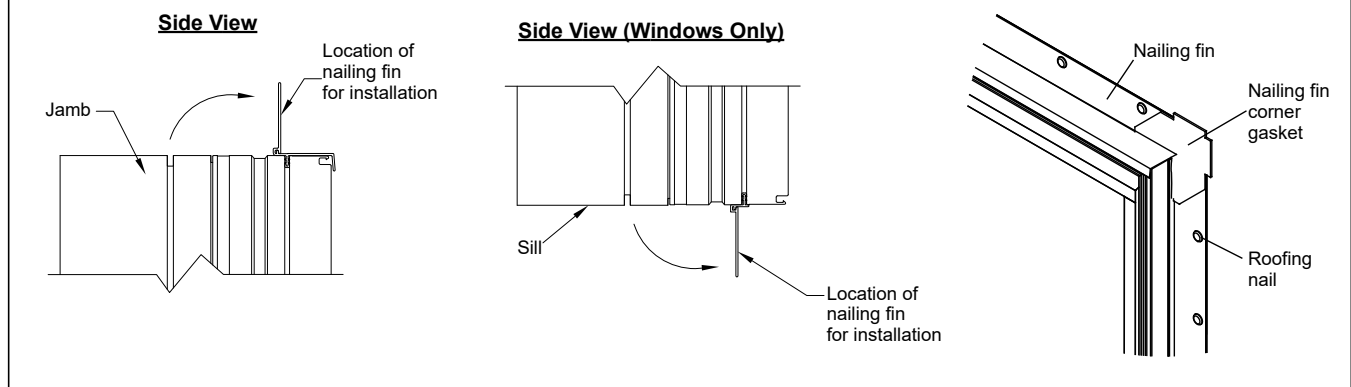
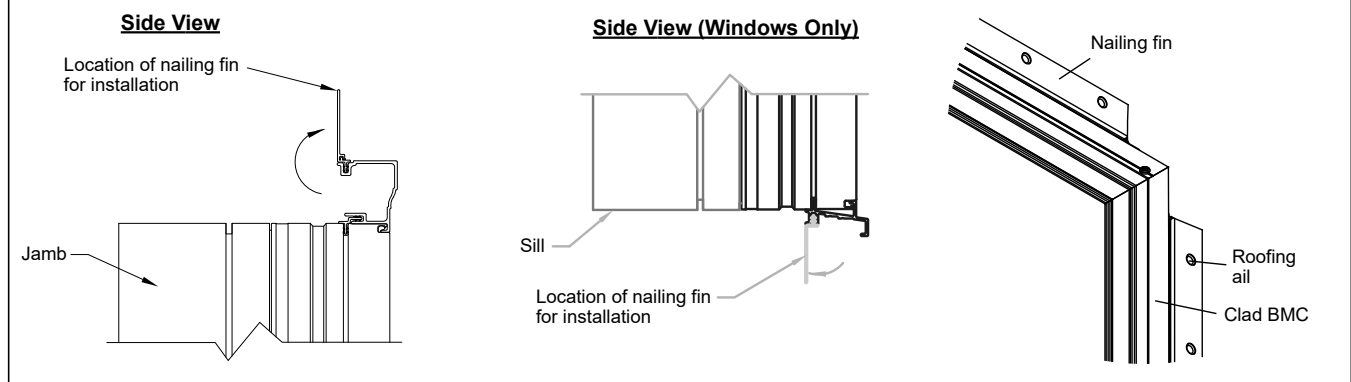

Figure 1
Figure 2
1. Position the factory applied nailing fin/drip cap upright for installation as shown in figure 1. Ensure drip cap lip hangs over the head jamb extrusion. See figure 2 for units with factory applied casing.
3. After the unit has been permanently secured, apply nailing fin corner gaskets to each corner of the nailing fin (top corner only on doors) as shown in figure 1. Units with casing will not use corner gaskets.